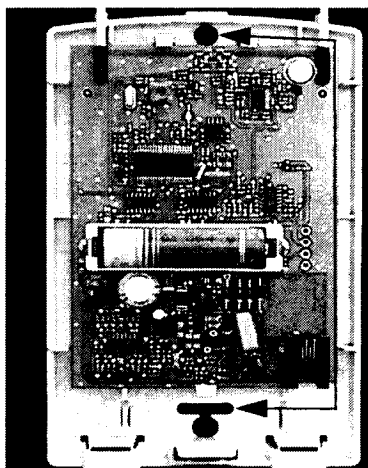

Figure 3. Mounting Hole Locations
1. With the cover off, place the DTIM at the desired location and mark the mounting holes (see Figure 3).